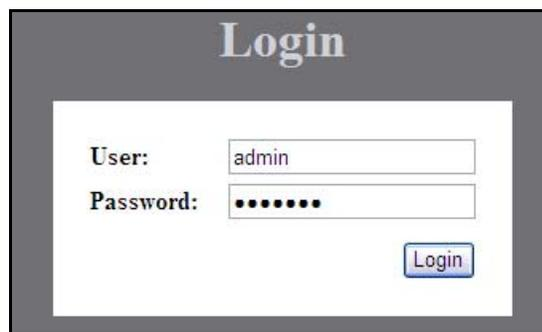

Figure 24. Evolution X1 Login Page
4. When the Login page (Figure 24) appears: